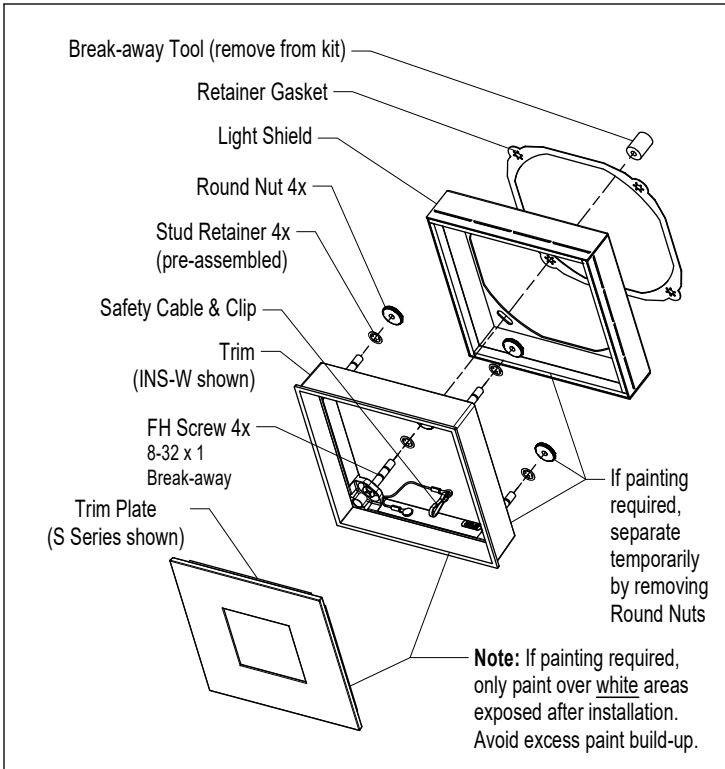

FIG 3.1 Trim Kit Assembly
STEP 3 If painting is required, temporarily separate Light Shield & Retainer Gasket from Trim Kit & paint Trim & Trim Plate (see note in FIG 3.1).
STEP 4 Before installing, rough adjust Trim Kit height to approximate ceiling-to-Housing depth. Use Screws & Round Nuts to set rough height of Trim - FIG 3.1 & 3.2.